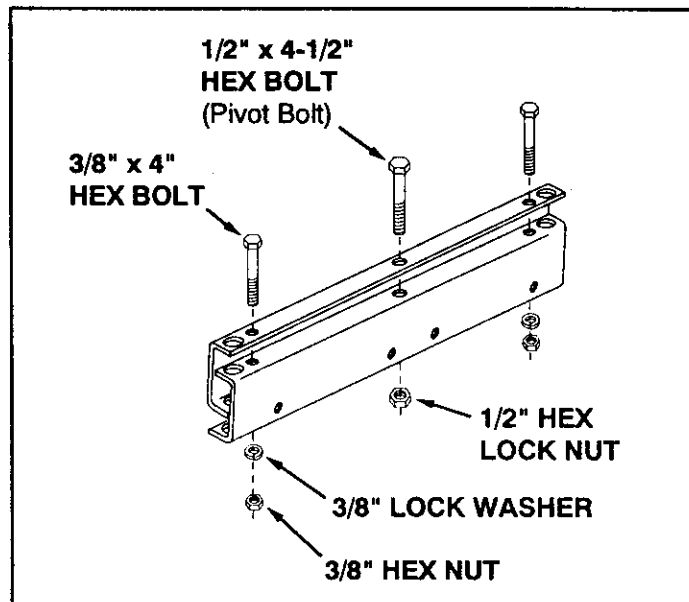

FIGURE 6
- Tighten the two 3/8" x 4" hex bolts assembled in figure 6. **Do not tighten the 1/2" x 4-1/2" center bolt.**
- Place the two front axle channels together as shown in figure 6, making sure the holes in the top, bottom and sides are aligned. Use two 3/8" x 4" hex bolts, 3/8" lock washers and 3/8" hex nuts to fasten the ends of the channels together. Place a 1/2" x 4-1/2" hex bolt and a 1/2" hex lock nut in the middle hole in the channels. **Do not tighten** the bolts at this time.